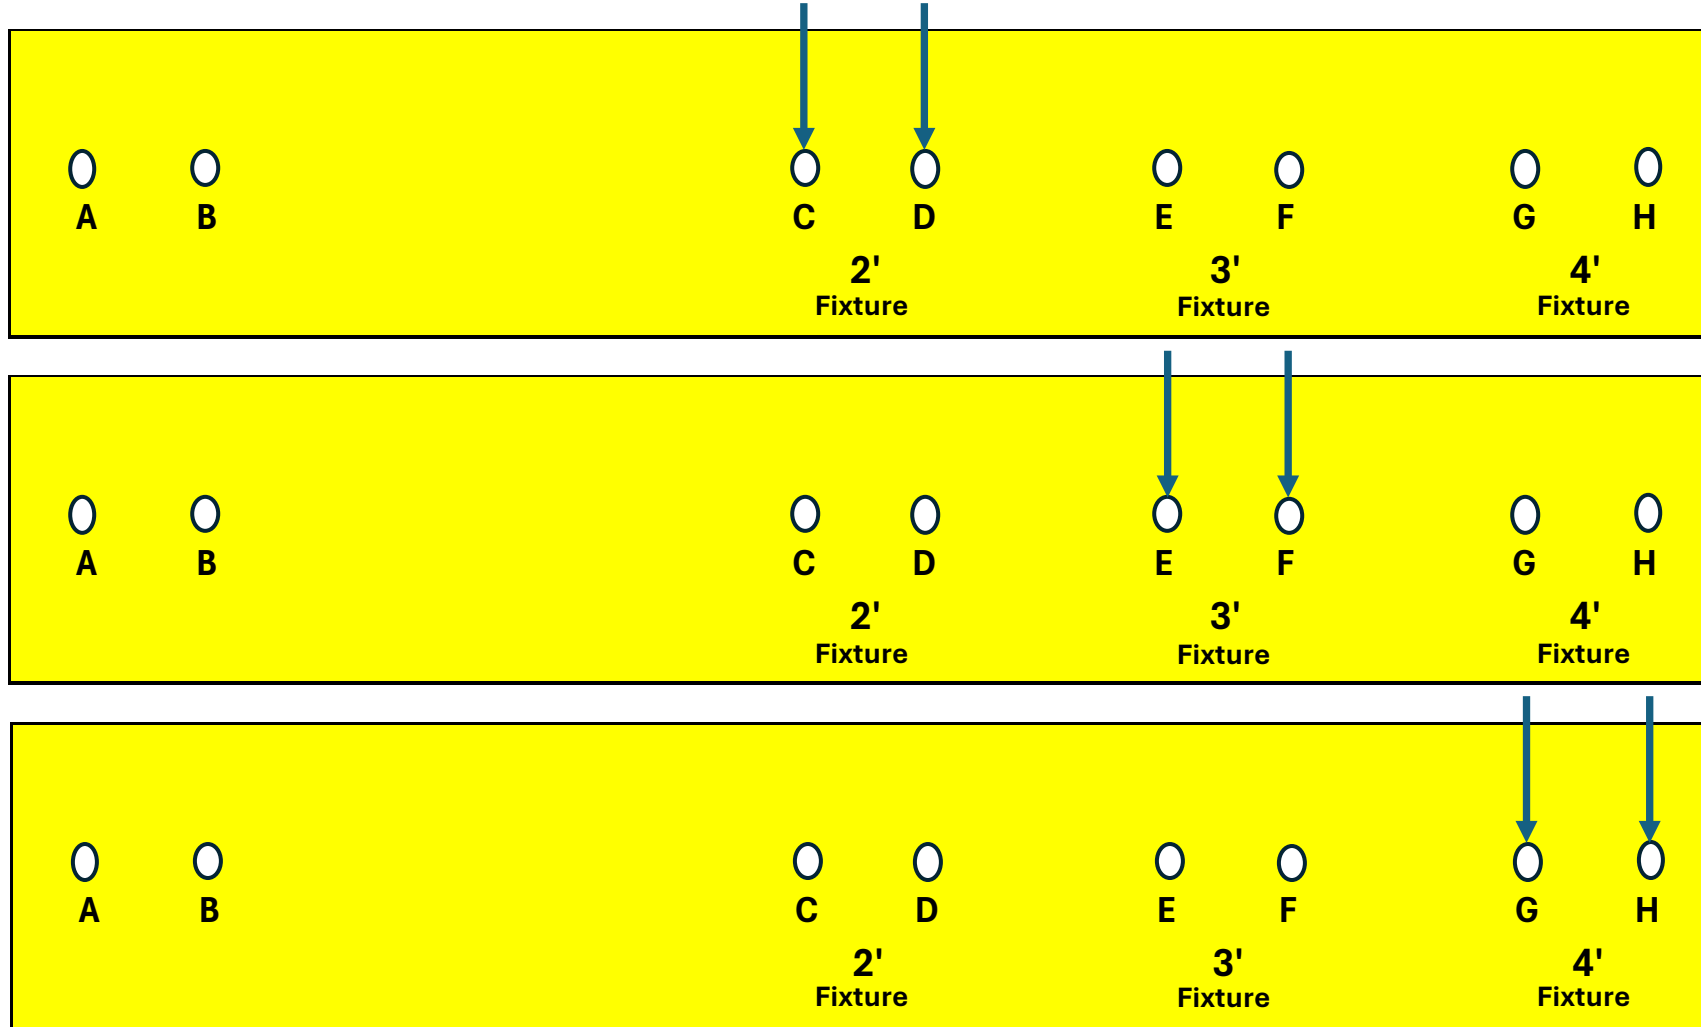

Figure 10
STEP 10 Then move the template right to line up the last two mounting holes marked above (in figure 10) with the A and B holes, and mark the next fixture size in the linear run mounting holes, 2' (C and D) , 3' (E and F), or 4' (G and H) as shown in the figure 10 below
STEP 11 Repeat the above step (see figure 10 above) until you reach the last fixture required for the linear run.